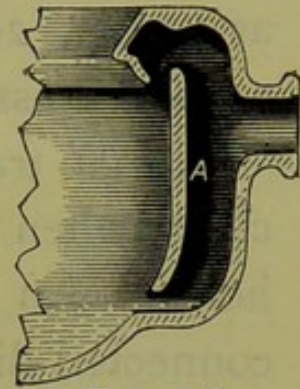

FIG. 29.*
* Fig. 29 shows another mode of bringing in the water, and which is equally effective when under a good pressure.
washed out, a *direct* stream of water is poured down into the trap, to drive everything foreign out of it. The basin is also made with *one inlet-arm*, by a pipe connecting the two inlets together, as shown at A, Fig. 29, and which is equally effective with a good pressure of water upon it.